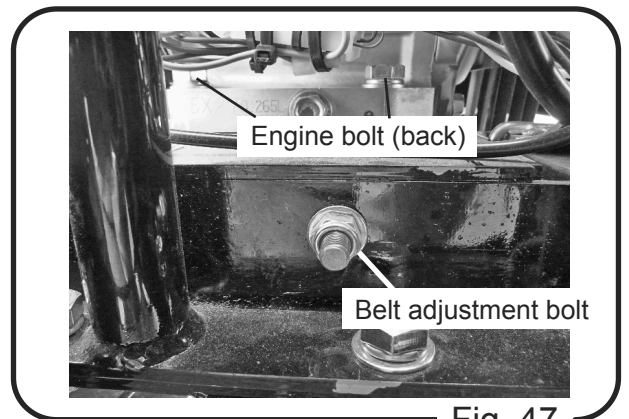

Fig. 47
8. Assembly is the reversal of the disassembly steps. But for the engine bolts, do the tightening after the tension is adjusted after V belt installation. (Fig. 47)